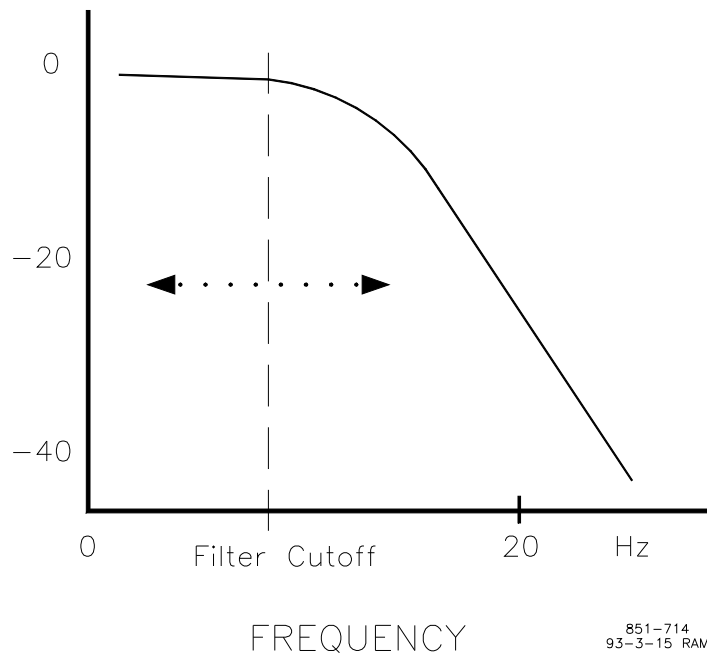

Figure 3-5. Speed Filter
9. **SS1 SPEED FILTER** adjusts the cutoff frequency of a low pass filter used on the engine speed sensing input (see Figure 3-5). To use this feature set the cutoff frequency below 15.9 Hz. The filter is used to attenuate engine firing frequencies. To calculate the desired filter cutoff point, use the following formulas:
10. **SS2 SPEED FILTER** adjusts the cutoff frequency of a low pass filter used on the turbo speed sensing input (see Figure 3-5). This filter is used to attenuate the turbo speed input separately from the engine speed input. The filter is activated during configuration by setting USE TURBO MPU to TRUE in the CFG Speed Control menu. To use this feature set the cutoff frequency below 15.9 Hz. Normally attenuation of the turbo speed signal will not be necessary. However, some noise attenuation may be needed.